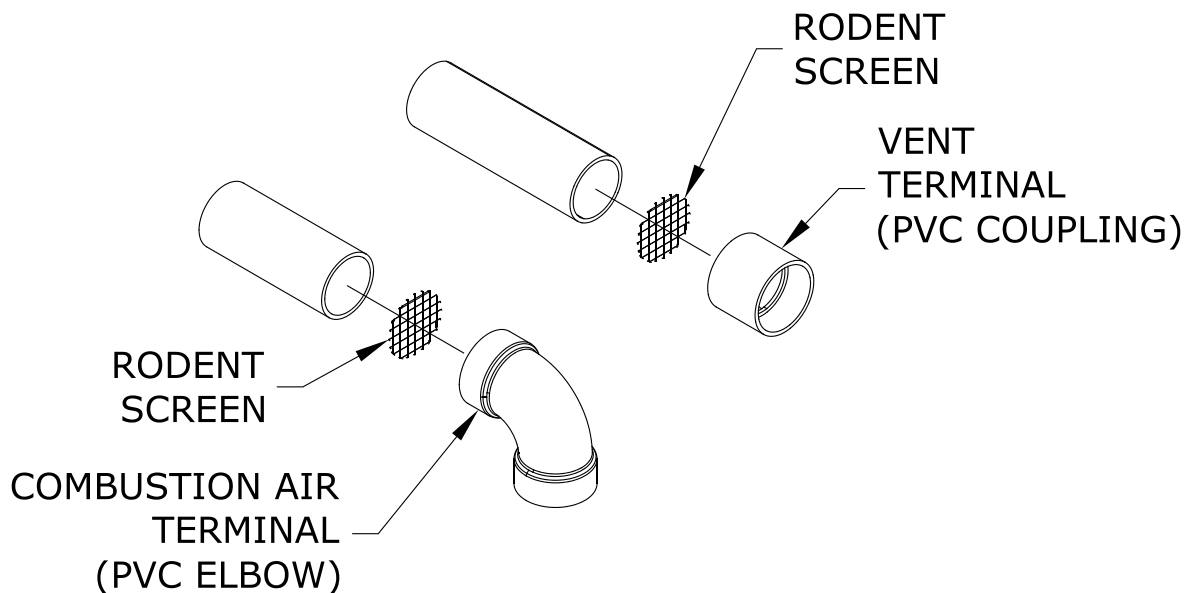

**Figure 7.27: Vent Connections and Flue Gas Sample Cap Location**
- **Never leave the boiler in operation without the gas sample cap in place (Figure 7.27).**
- a. The vent adaptor has three different inside diameters. The middle inside diameter accepts 3" nominal PolyPro (Figure 7.27). A locking band clamp in the adaptor prevents the vent pipe from coming out of the adaptor once it is installed and tightened. Lubricate the gaskets in the vent adaptor with soapy water and insert the first piece of 3" PolyPro into the adaptor until it bottoms out. Tighten locking band clamp to secure vent pipe.